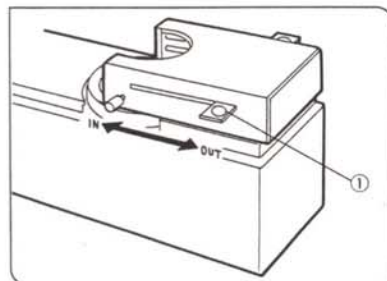

Fig. 19
**Using the Filter Cassette (Fig. 19)**